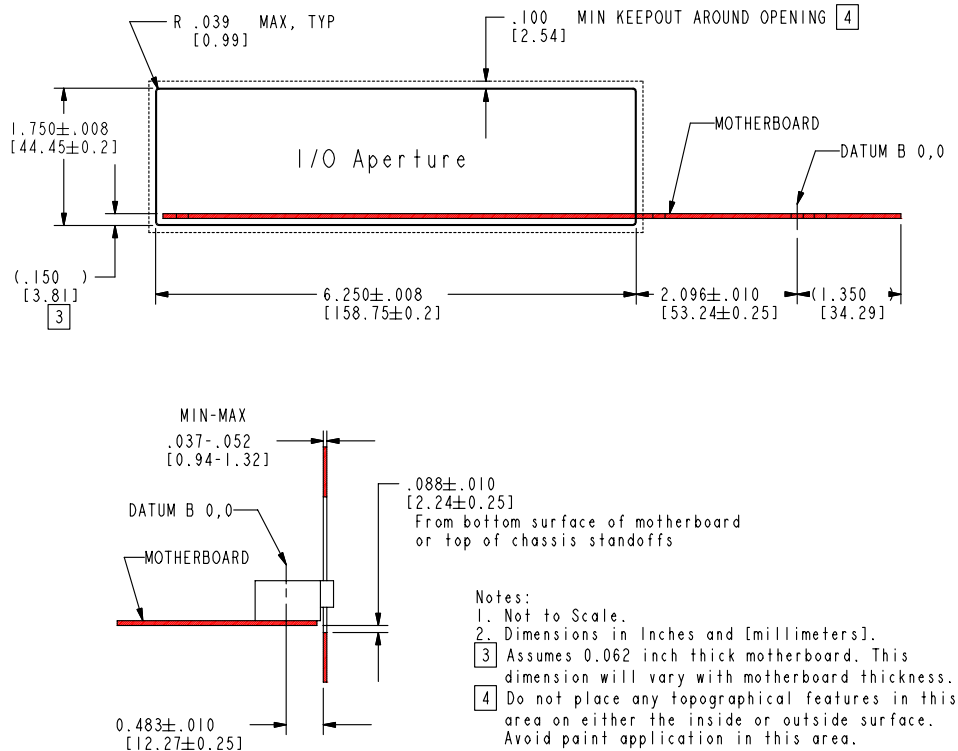
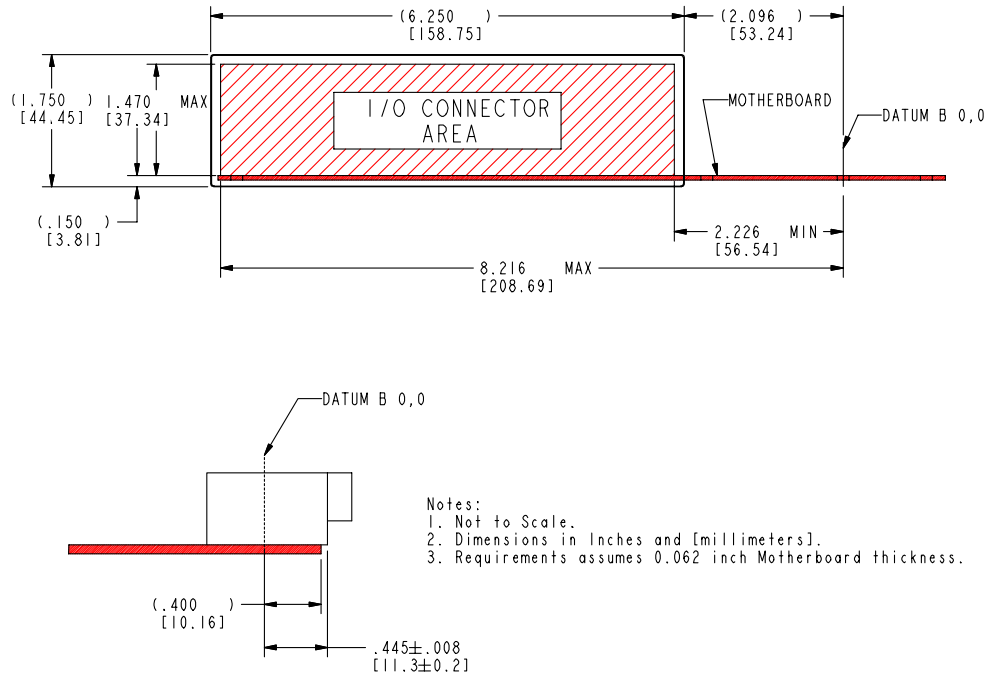

Figure 4: Chassis I/O Aperture Requirements
Figure 5: Motherboard I/O Connector Location Recommendation
As shown in Figure 4, the bottom of the back panel opening is located 0.150 inches (3.81mm) below the top of a typical 0.062 inch (1.57 mm) thick motherboard. A 0.1 inch (2.54 mm) required keepout zone is defined around the perimeter of the cutout area, on both the inside and outside surfaces of the chassis back panel. This keepout zone provides a reserved space that can be used to clip a chassis-independent I/O shield to the chassis back panel. No slots, tabs, notches, or other topographical features should be placed within the keepout zone. If a feature violates the keepout zone, the chassis loses the opportunity to support an I/O shield that can be designed to fit all ATX chassis that meet the specifications listed below and detailed in Figure 4 and Figure 5. For best EMI attenuation performance, paint should not be applied within the keepout area, because paint can prevent proper grounding of the I/O shield. Also, motherboard connector placement must be limited as shown in Figure 5 to allow enough clearance between the connectors and chassis opening for the I/O shield structure.
Figure 5 specifies the I/O connector zone. Compliance with this recommendation is necessary to ensure enough clearance between the chassis aperture and motherboard connectors for the I/O shield structure. If the shield provided with the motherboard requires less than the recommended clearance, then the dimensions of the I/O connector area can be waived (hatched area in Figure 5: 5.990 inches [152.15mm] by 1.470 inches [37.34mm]). To retain maximum flexibility, the exact positioning of connectors within the I/O connector zone is left to the discretion of the motherboard designer.
- The face of all I/O connectors should be placed 0.445 inches (11.30mm) from the reference datum and remain within the zone defined in Figure 5.